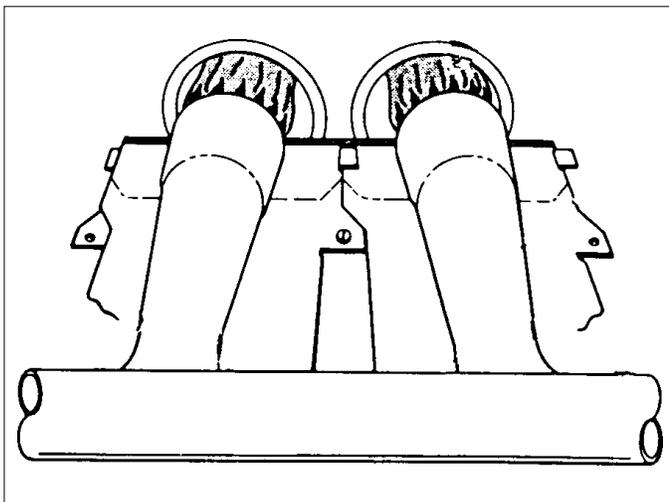

Figure 2. Burner Inspection
1. Carefully reinstall the gas manifold assembly to the burner box with the four (4) fasteners removed earlier.
2. After installing the manifold assembly to the burner box, inspect the alignment of the burners with the heat exchanger tubes. The center of the burners should be aligned with the center of the tubes. See Figure 2.
7. After the flame ignites, visually inspect the burner assembly to ensure that the flame is drawn directly into the center of the heat exchanger tube, as shown in Figure 2. The end of the flame will be out of sight around the bend of the heat exchanger tube. In a properly adjusted burner assembly, the flame color should be blue with some light yellow streaks near the outer portions of the flame.